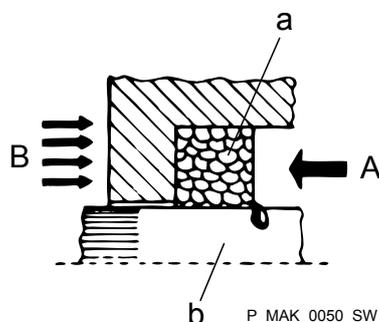

Fig. 20: Correct pressure of the tensioning screw
*In Fig. 20, the feed chemical B presses from the left between plunger b or the dosing head and the packing collar a (drop on the right!). The tensioning screw A (not shown) presses on the packing collar from the right.*